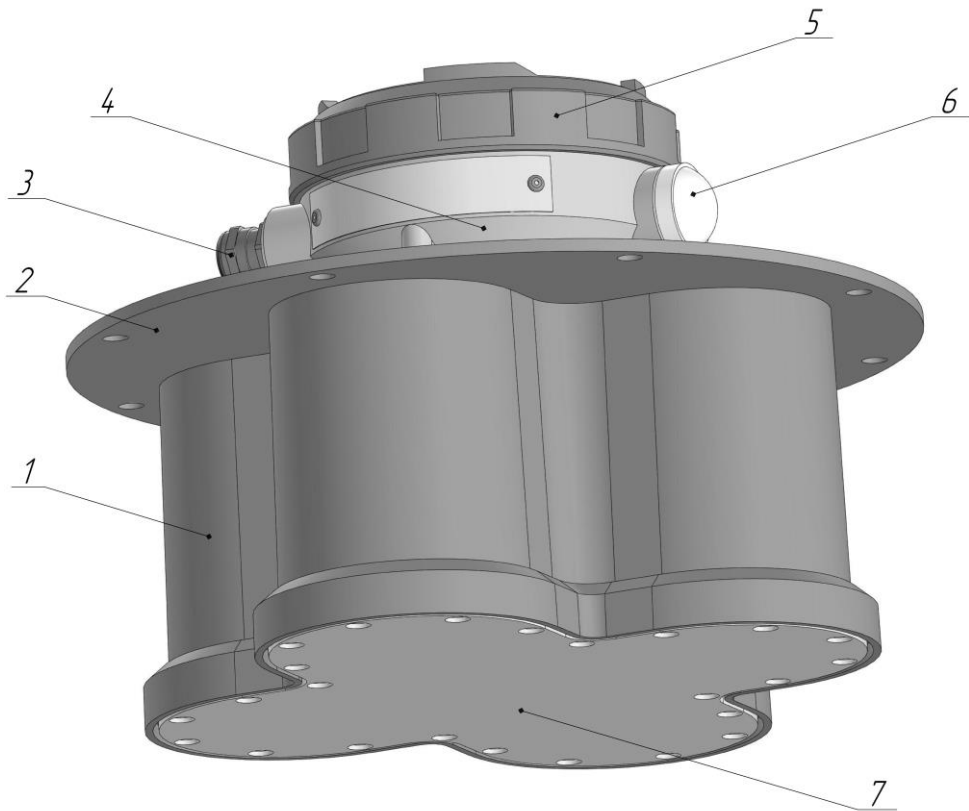
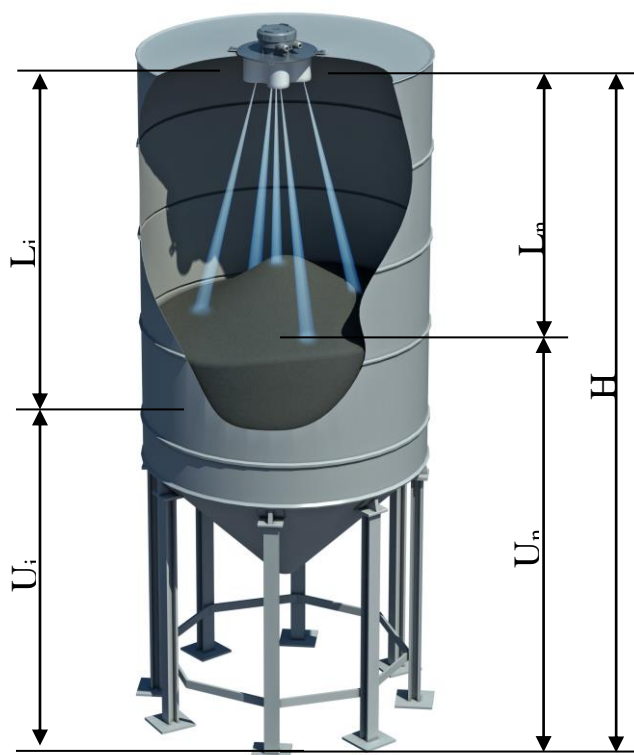

Fig. 3.1. Appearance and location of key ULM-3D-5 components
Fig. 3.4. ULM-3D-5 level transmitter on the tank
The level transmitter is installed above the measured surface of material. The device is mounted in an opening on the tank roof using a flange in a closed tank (Fig. 3.4), and using a special bracket in open tanks and storage facilities. The device measures the distance L_i from the bottom surface of mounting flange to the product surface for each of the measuring channels. Then the level is calculated using the formula $U_i = H - L_i \cdot \cos(a_i)$, where H is the installation height, a_i is the tilt angle of i -channel. The base plane of the measuring range of level transmitter is the lower surface of mounting flange (Fig. 3.1 item 2).